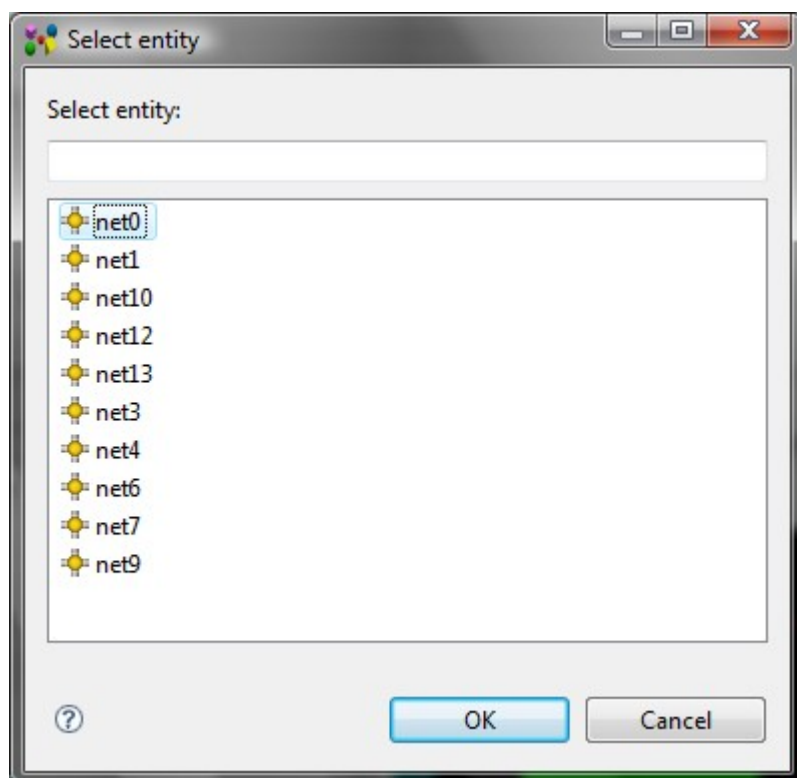

Figure 2. Select entity with the list of available networks
- The **Select entity** page appears on the screen (see Figure 2) to select an applicable network to be associated with the selected terminal.